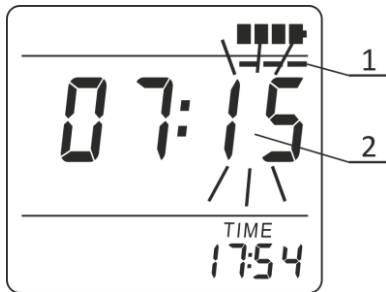

Figure 2.20 – LCD of the radiometer
- alarm clock symbol (1) (if the alarm clock is on);
- battery status symbol (2);
- time of the alarm clock triggering (3);
- current time (4).
To proceed to the submode of programming the alarm clock triggering time, press and hold **THRESHOLD** button until a stripe (1) “moving” across the instantaneous value indicator appears on the LCD, and the minute digits of alarm clock triggering (2) start blinking (Figure 2.20).